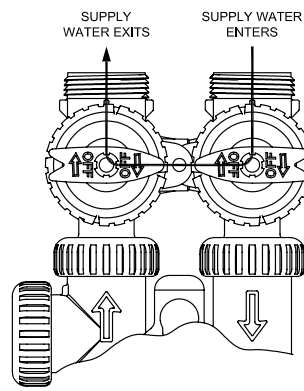
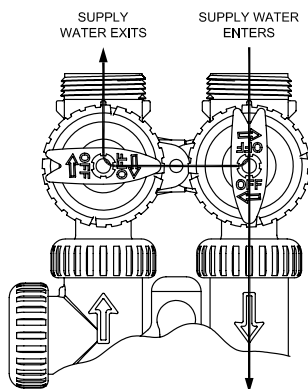

Figure 3
Figure 4
2. Place the bypass valve in the bypass position. (See figure 3 page 5) Turn on the main water supply. Open a cold soft water faucet to flush the piping of any air and/or foreign material. Run until the water is clear.
6. Push REGEN button and hold it down for 3 seconds. The system will advance to the “First” position. (Note: Depending on how the system is programmed it could read backwash, rinse, brine or fill). Keep pushing REGEN button until “Rinse” shows in the lower right hand corner of display. Slowly place the by-pass into the “diagnostic mode” (see fig 4, page 5). Run water to the drain until it runs clear. Return the by-pass valve to the by-pass position (fig 3, page 5). Push REGEN button until “unit is back to softening mode.”